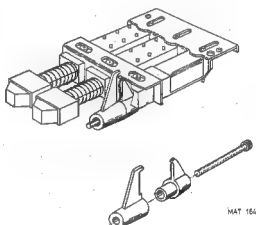

Fig. 3.7. Push-button set clamping device
- Remove the switches SK8 and SK9 by unscrewing the two screws and removing the two clamping pieces (see fig. 3.7).
- Remove the switches SK11 ... SK18 by unscrewing four screws and removing four clamping pieces (see fig. 3.7).
Before a push-button switch is refitted to the front panel, it is advisable to stick the two parts of the clamping device together by means of adhesive tape or non-hardening glue, in order to facilitate replacement, refer to fig. 3.7.